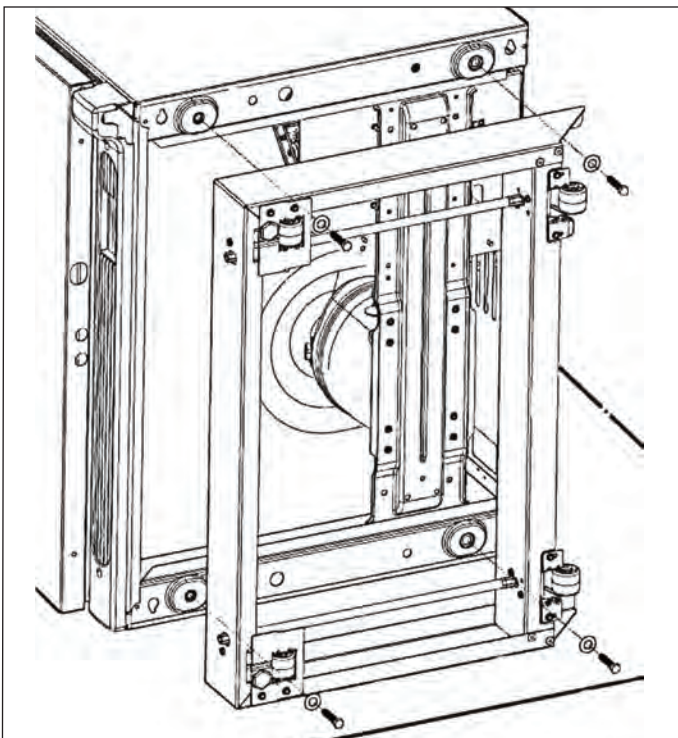

Figure 2-19.
### Installing The Riser Kit On Early Models (See Figure 2-19 to identify)
7. Repeat the above procedure for the three remaining attachment points. (See Figure 2-19).